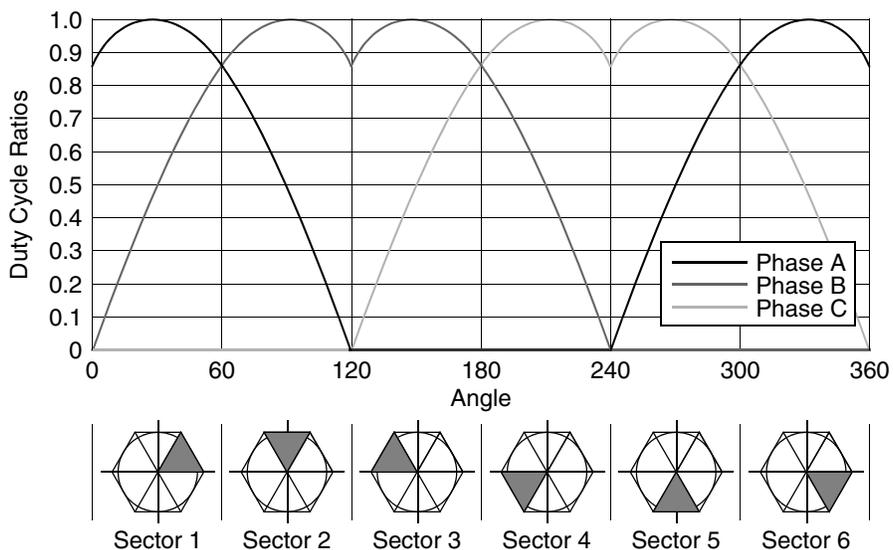

Figure 3. Space Vector Modulation with O_{000} Nulls Technique
- Space Vector Modulation With O_{000} Nulls (SVM_U0N)** - The input parameters are orthogonal components of an applied motor voltage vector alpha and beta in the range (-1,1). Figure 3 depicts the modulation technique.